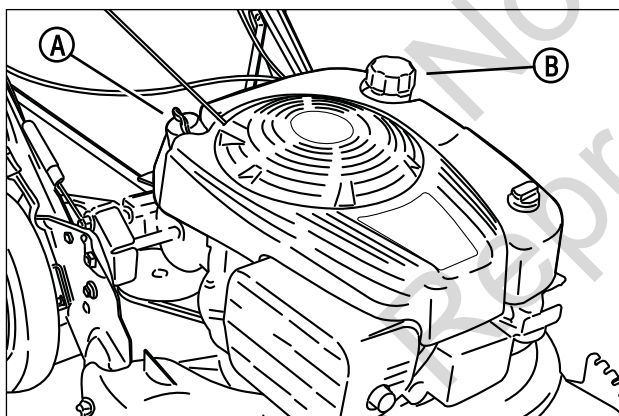

Figure 2: Oil and fuel fill
4. Check the engine oil (**A, Figure 2**) and add oil as needed to bring the level up to the full mark. Refer to the Engine Owner's Manual for oil specifications.
5. Add fuel to the tank after pushing the mower outside where fumes can safely dissipate. Fill the tank to 1-1/2 inches below the top of the filler neck (to allow for fuel expansion). Make sure the cap (**B, Figure 2**) is tightened after fueling. Refer to the Engine Owners Manual for fuel specifications.